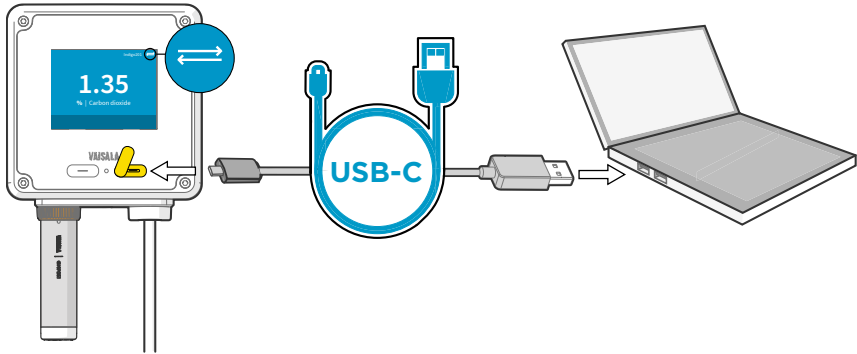

Figure 12 Connecting Indigo200 transmitter to Insight PC software with USB-C cable
5. In transmitter models with a display, the USB connection icon (see Figure 12 \(page 29\)) appears on the top right corner of the transmitter display when the USB cable connection is active.